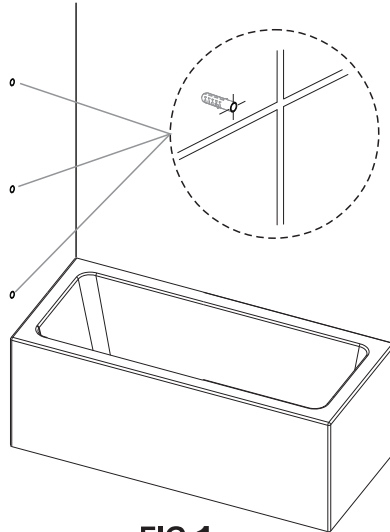

FIG 1
1. Replace current wall plugs if required with MERLYN wall plugs supplied with Easy-Fit profile to ensure bath screen will be secure. (FIG 1)